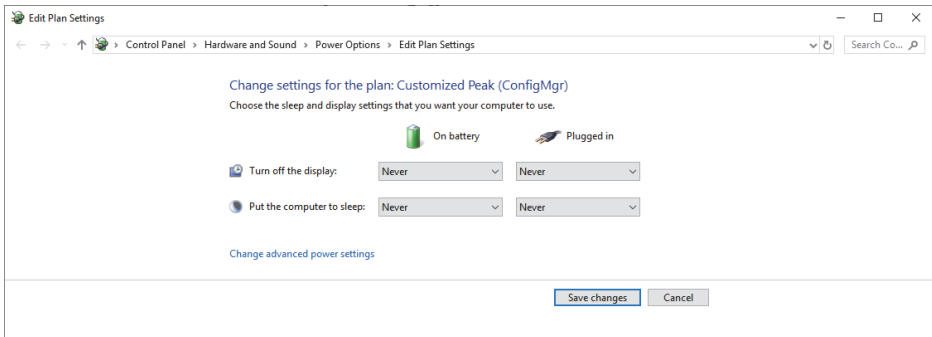

Figure 1-4 Edit Plan Settings dialog box
- b) In the dialog box **Edit Plan Settings**, set **Turn off the display** and **Put the computer to sleep** both to **Never** (Figure 1-4 on page 25).